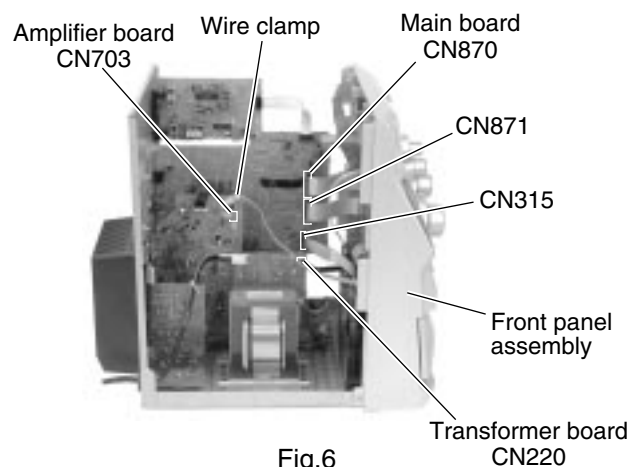

Fig.6
■ Removing the front panel assembly (See Fig.6 to 10)